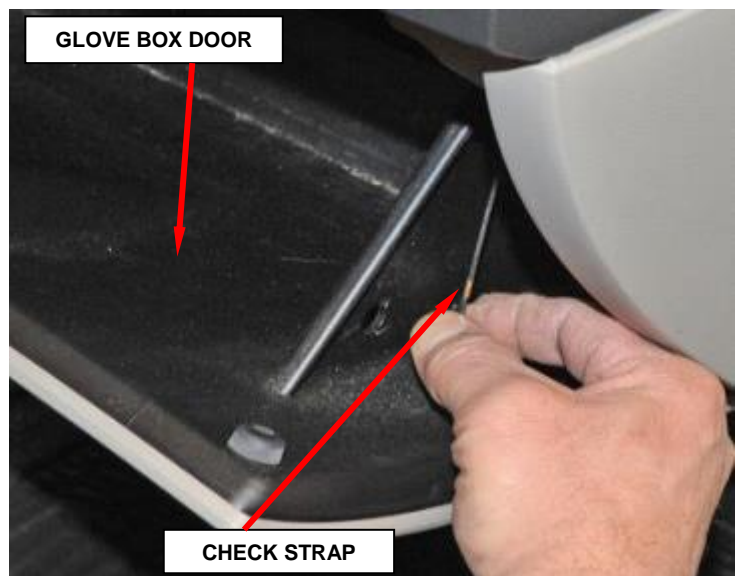

Figure 11 – Check Strap
- a. Remove the check strap from the right side of the glove box (Figure 11).